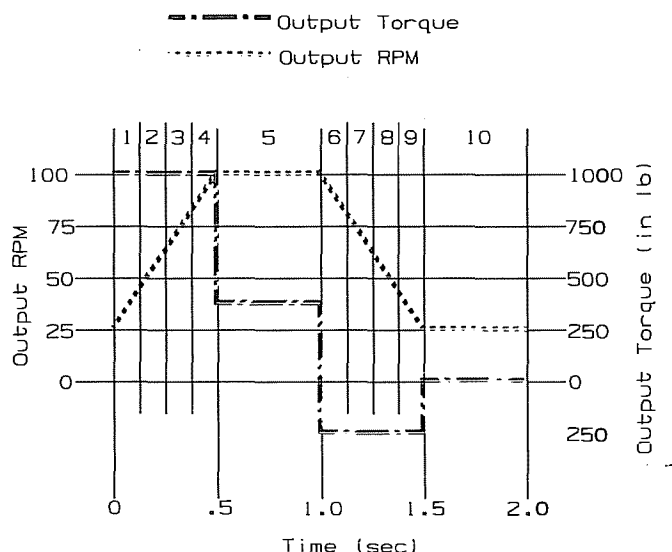

FIGURE 1
3. A. Review the load and speed curves as defined by the application (see Fig. 1 for an example). Separate one complete cycle into convenient increments of time for the various load and speed conditions. As the number of increments increase, the chances of unnecessarily oversizing the selection will be reduced. Record the time interval, maximum OPERATING LOAD and maximum RPM for each increment. The OPERATING LOAD can be in terms of HP or torque. RPM and load must
A servo motor is used to drive an S-ELIMINATOR with a cyclic load as shown in Figure 1. The drive will operate 10 hrs. per day, 5 days per week. The maximum operating speed of the servo motor is 2000 RPM.
- A. Figure 1 has been broken down into 10 increments. For each increment, record the TIME INTERVAL, RPM (output) and OPERATING LOAD (output torque) on the worksheet (see Table 5 on page A7). Calculate and record the DESIGN LOAD by multiplying the OPERATING LOAD by the SHOCK FACTOR.